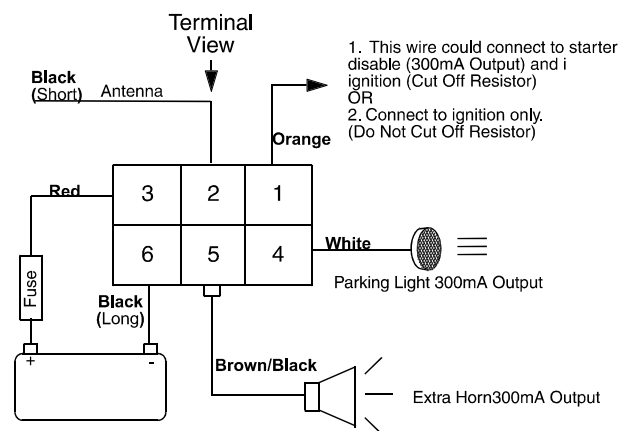

FIGURE 1 Overall Wiring Diagram
**WIRING THE SIREN** (Refer to Figure 1 Overall Wiring Diagram)